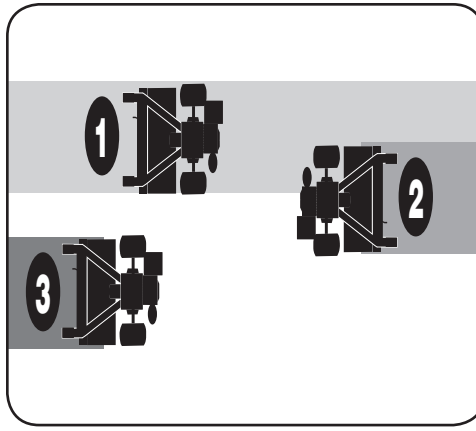

Figure 4-8
- If the garden size will not permit lengthwise and then crosswise tilling, overlap the first passes by one-half a tiller width, followed by successive passes at one-quarter width. See Figure 4-8.